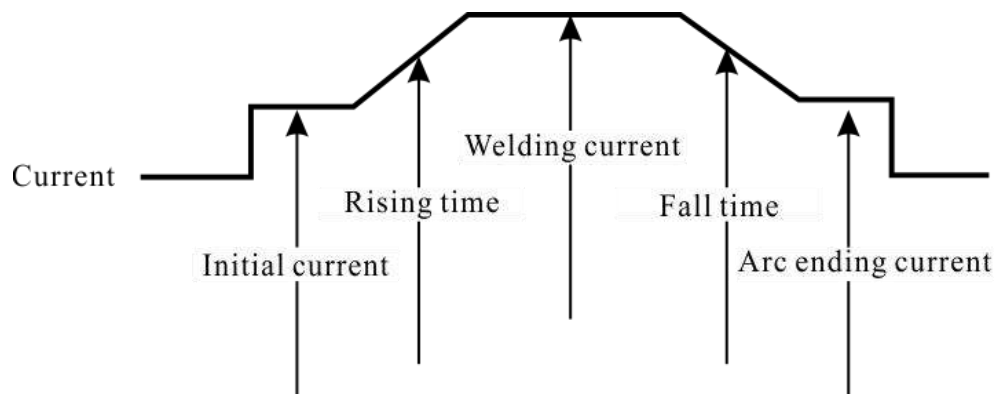

Figure 3-8 Current segment logic diagram
1. Press the "Welding sequence" key and the LED light will light up. Each time the "Welding sequence" key is pressed, the indicator will light up in a cycle from the initial current–rising time–fall time–arc ending current, and the logic is shown in Figure 3-8.